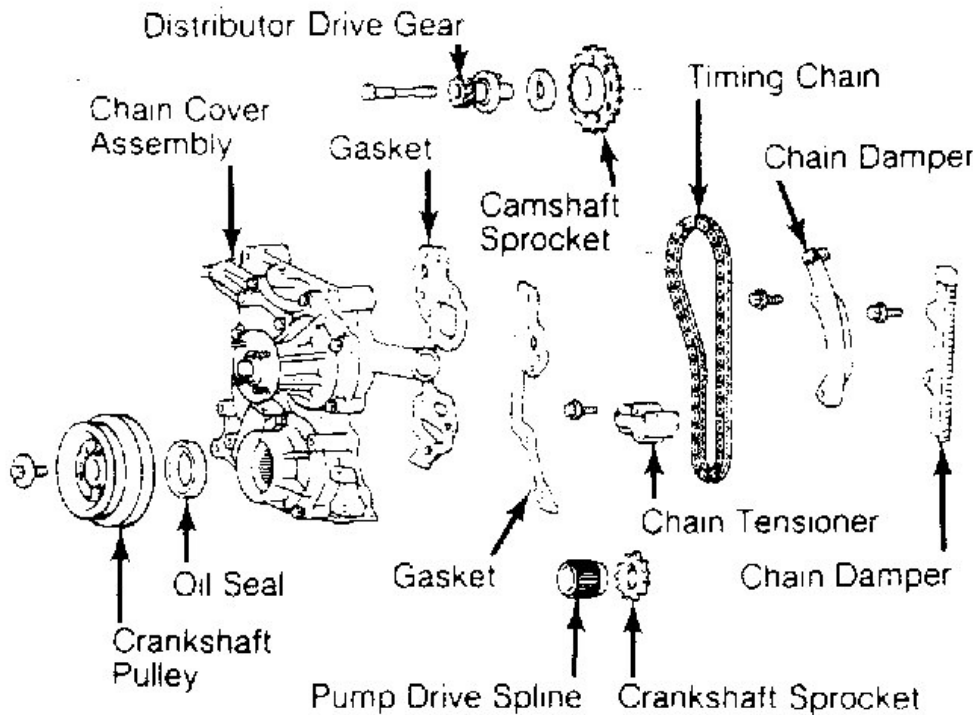

Fig. 3: Exploded View of Timing Chain Components
4. Remove power steering belt (if equipped). Remove A/C belt, compressor and bracket (if equipped), and lay them aside. Remove fan clutch along with fan. Remove water pump pulley. Set No. 1 cylinder to TDC of compression stroke. Remove crankshaft pulley. See **Fig. 3**.